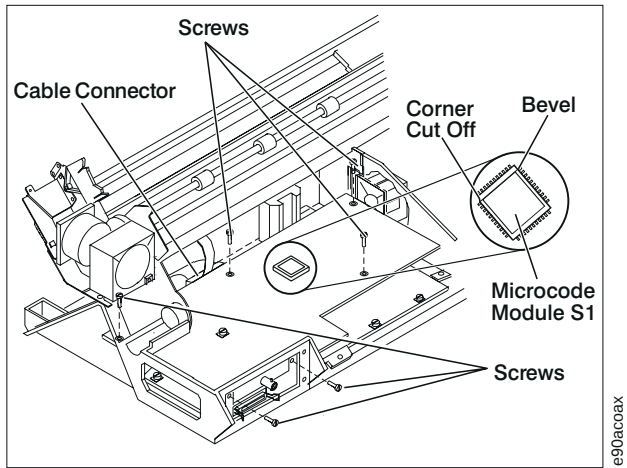

Figure 127. Coax Attachment (Long) Card
7. When re-installing, verify that the microcode module S1 is properly oriented and plugged into the socket. For the Level 1 (long) attachment card, use Figure 127 on page 394 as a guide.
Attention: Incorrect orientation of the module will damage the module and can damage the attachment card. Use Figure 127 on page 394 as a guide.